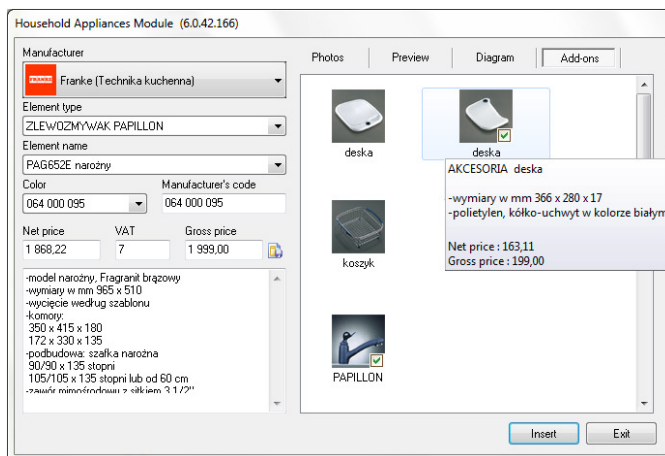

Fig. 248 – additional options for a particular model
- additions (optional) — can be inserted together with the household equipment (they need to be 'ticked' ☒ - otherwise they will not be inserted) (Fig. 248).